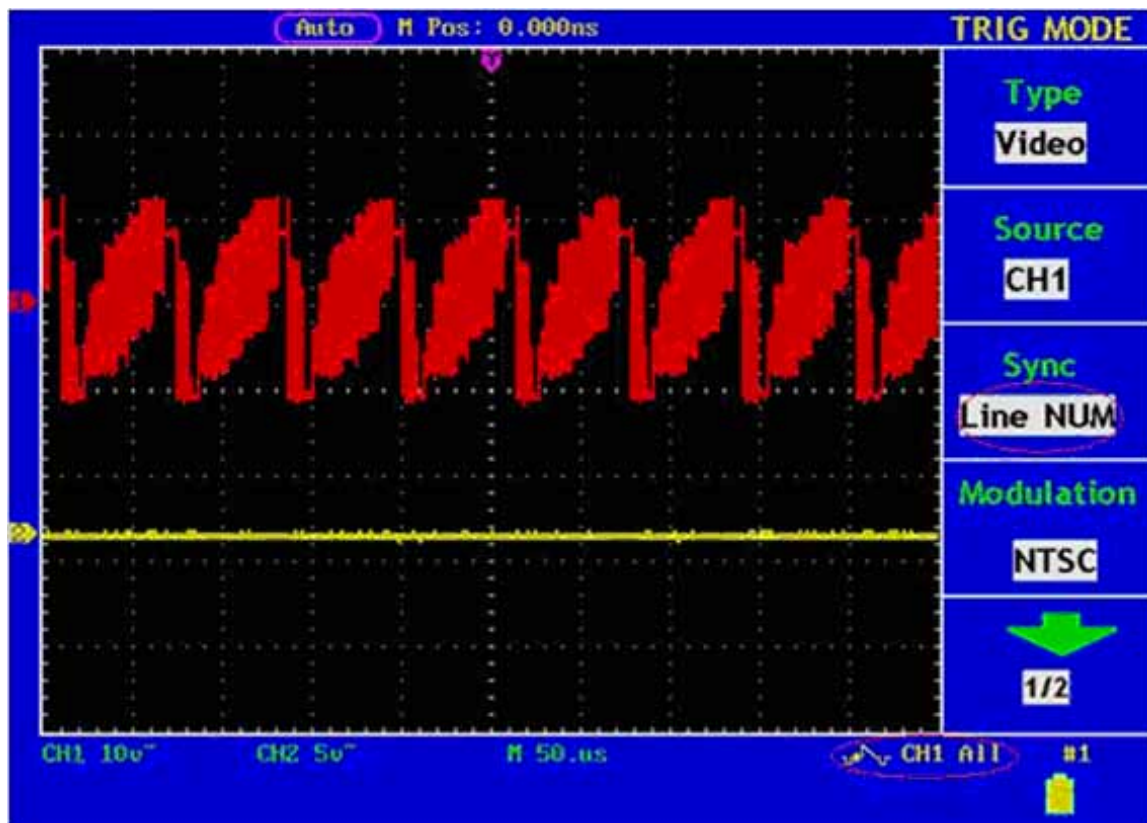

Fig. 67 Wave Form Obtained from the Line NUM Trigger
6. Adjust the **VOLTS/DIV**, **VERTICAL POSITION** and **SEC/DIV** knobs to obtain a proper wave form display (see Fig. 67).